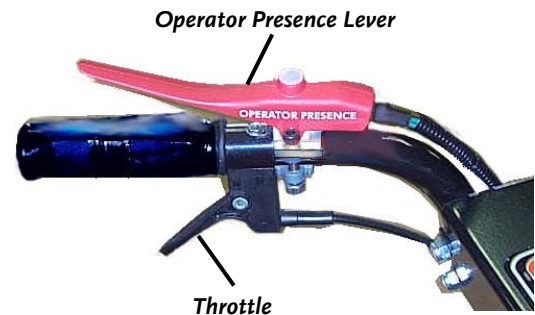
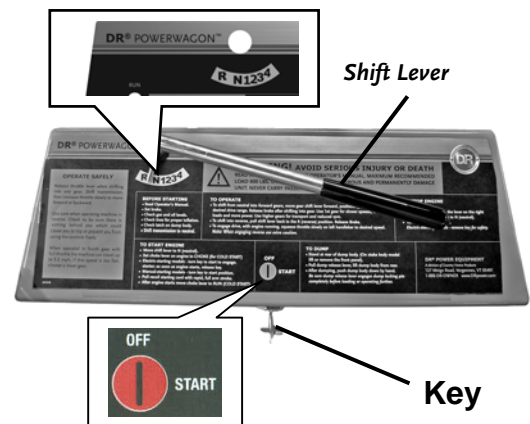

Figure 5
Figure 6
**NOTE:** The DR POWERWAGON-PRO is equipped with an Operator Presence Control for added safety. The Operator Presence Lever must be depressed whenever the Shift Lever is in gear, or the Engine will stop. You may run the Engine without depressing the Operator Presence Lever (**Figure 5**) only if the Shift Lever is in the "N" (Neutral) position (**Figure 6**).
1. Move the Shift Lever to the "N" (Neutral) position (**Figure 6**).
3. Turn the Key to the START position (**Figure 6**). As soon as the Engine starts, release the Key, and it will return to the RUN position.
1. Move the Shift Lever to the "N" (Neutral) position (**Figure 6** on page 13).
3. Turn the Key to the START position (**Figure 6** on page 13).
5. After the Engine starts, squeeze the Throttle Lever (**Figure 5** on page 13) to the desired speed.
1. With the Operator Presence Lever depressed (**Figure 5** on page 13), move the Shift Lever to the desired gear.
1. Release the Throttle (*Figure 5* on page 13).
3. Shift to "N" (Neutral, *Figure 6* on page 13).